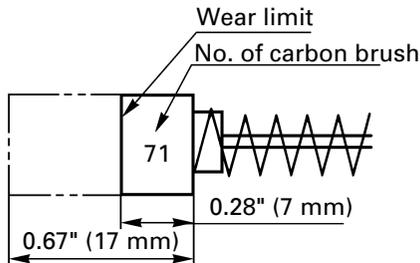

Fig. 17
4. Inspecting the carbon brushes: (Fig. 17)
NOTE: Use HITACHI carbon brush No. 71 indicated in Fig. 17